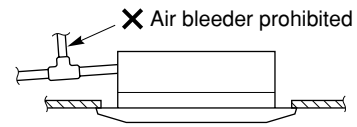

Fig. 3-27
- Do not install an air bleeder as this may cause water to spray from the drain pipe outlet. (Fig. 3-27)